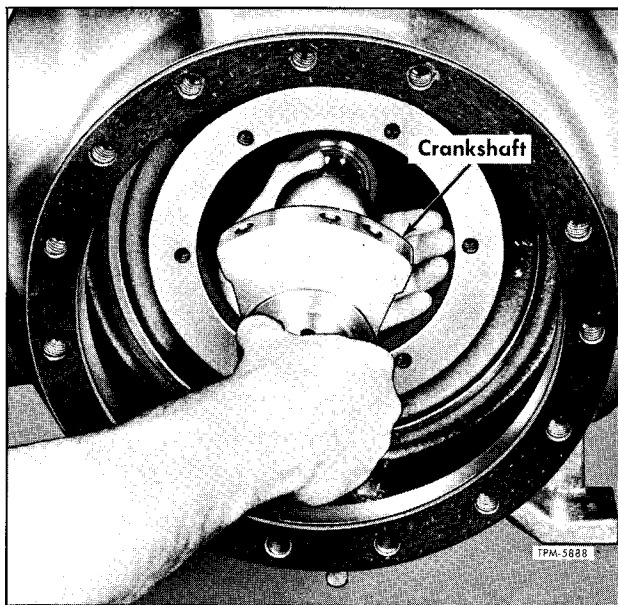

Figure 72—Recommended Method of Supporting Compressor Crankshaft When Making Replacement
2. If crankshaft was not removed with rear bearing head, grip crankshaft at center and at rear end, then slowly and carefully draw shaft out of compressor (fig. 72).
1. Install two magnetic plugs (55) into crankshaft oil passages.
3. Carefully insert crankshaft into compressor housing. Balance crankshaft with one hand through handhole opening (fig. 72), then carefully insert crankshaft through front bearing.